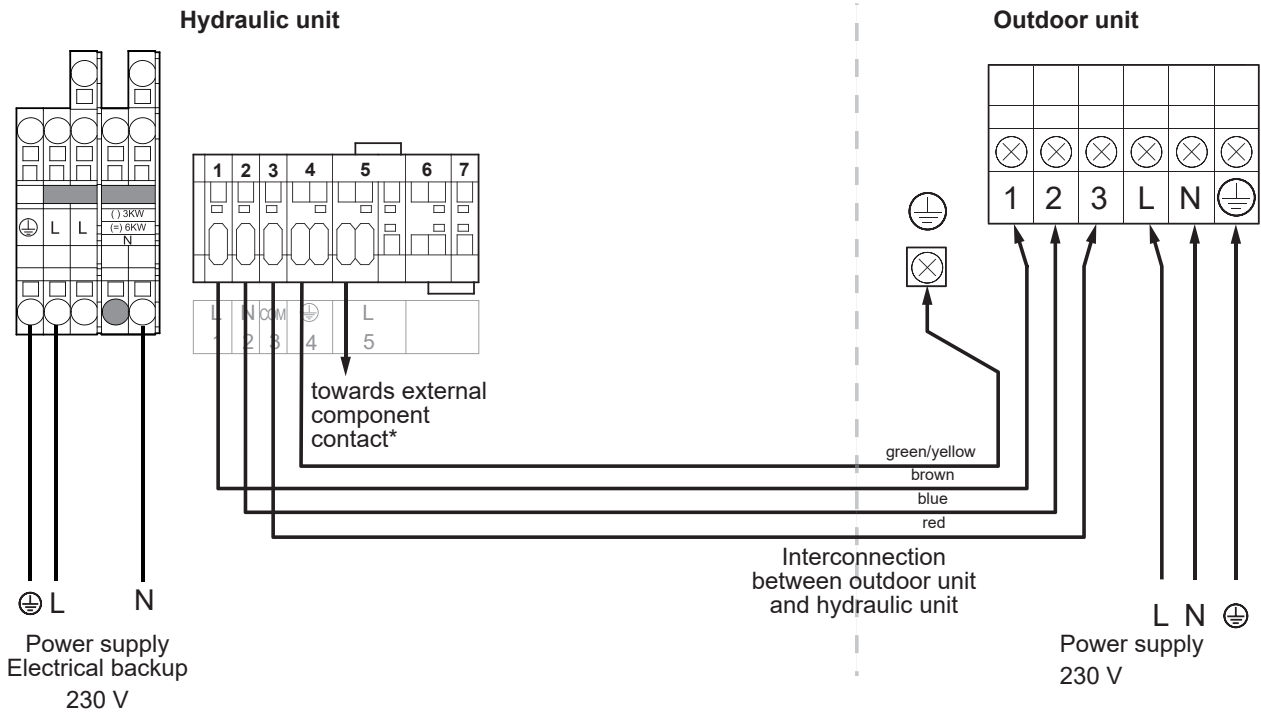

fig. 43 - Connection to terminal blocks and power relay
- Make the connections according to the diagram (fig. 43, page 41).